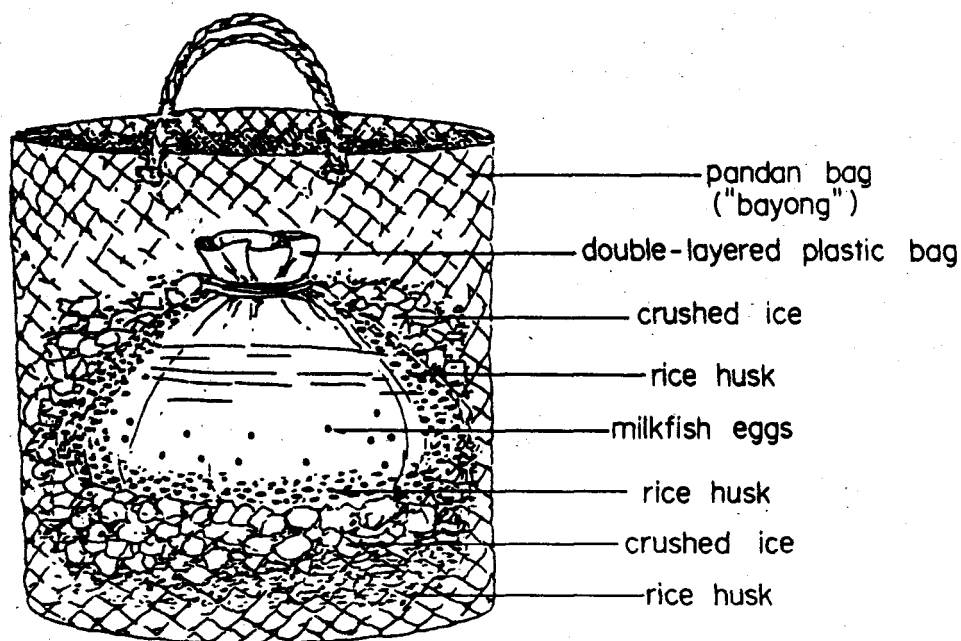

Fig. 3. *Bayong* bag for transporting milkfish eggs.
- 3) Layer *pandan* bags (*bayong*) with 2-3 inches of rice hull, 2 liters of crushed ice, and another layer of rice hull in that order (Fig. 3).